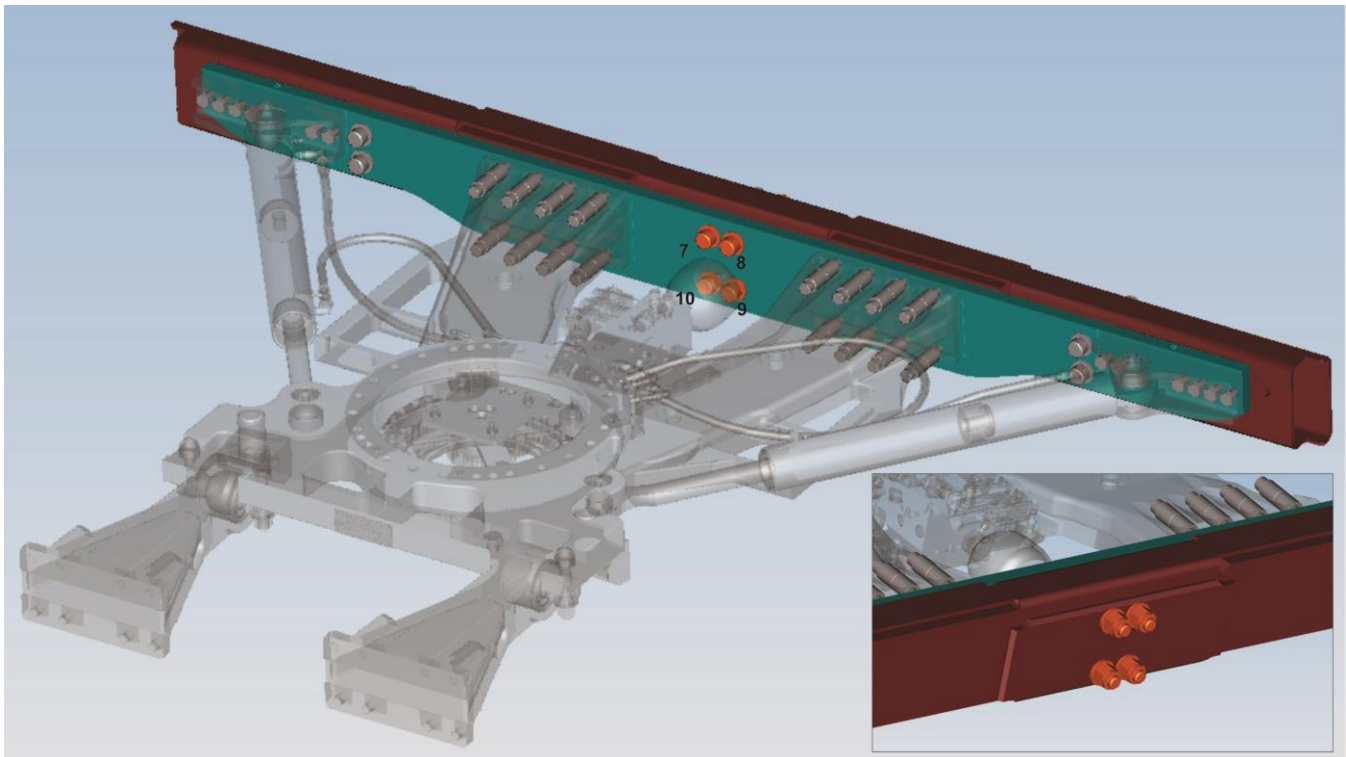

Figure 6: 7/8" Diameter Bolts, Nuts & Washers
1. One at a time, remove, replace, and torque the four 7/8" bolts to 520 ± 20 ft-lbs (Wet, with Loctite) to the bolt head in the sequence as shown in Figure 14. Torque the bolts a second time to 520 ± 20 ft-lbs (Wet, with Loctite) to the bolt head in the sequence. See Section F – "Part Number table" for the list of part numbers. Mark torque stripe across bolt head, washer and flex plate and on the nut side torque stripe across bolt, nut, washer, and tube structure. See Figure 6.